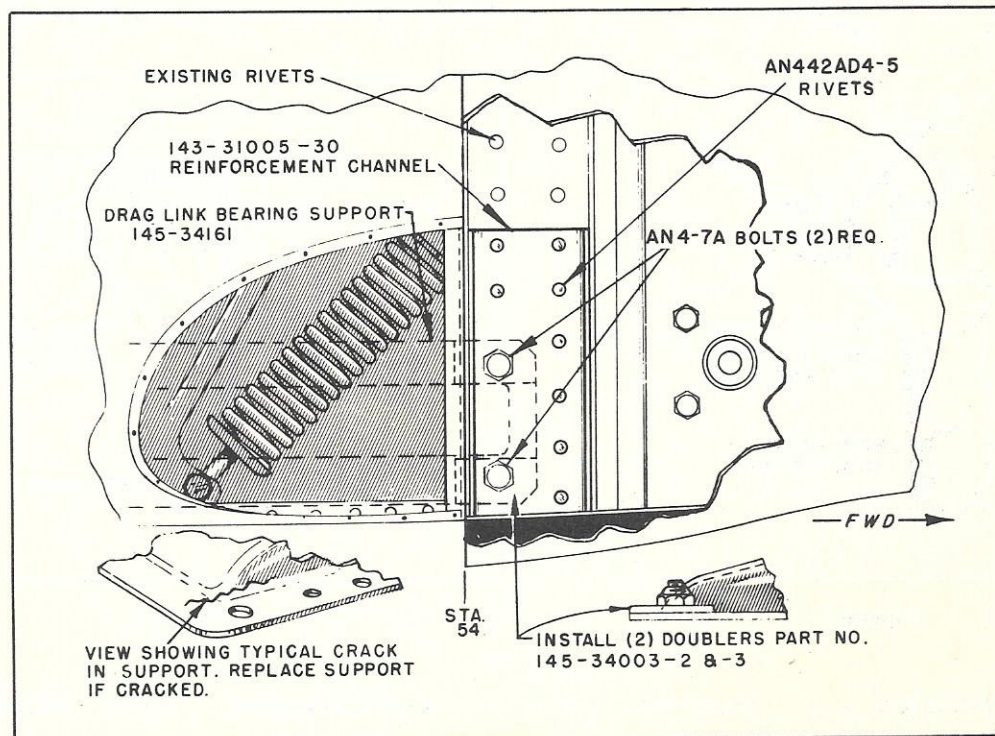

Figure 1
(1) Remove weight of aircraft from nose gear.
(2) Remove right-hand engine cooling gill cover.
(3) Through the gill opening, inspect forward end of support channel-nose gear drag brace bearing support, part No. 145-34161, for cracks in the radius of the flange where two bolts, part No. AN4-6A, attach part to firewall channel located on the opposite side. (See figure 1.)
(4) Replace if cracked. Use caution in removing rivets so as not to elongate holes.
(5) Remove bolts and rivets from lower end of the right-hand side of channel (firewall to nose gear torque box), part No. 143-31005-6, in area that would be covered by reinforcement channel, part No. 143-31005-30. (See figure 1.)
(6) Install reinforcement channel, part No. 143-31005-30, onto channel, part No. 143-31005-6, with eight rivets, part No. AN442AD4-5, using existing rivet holes.
(7) Replace bolts, part No. AN4-6A, with bolts, part No. AN4-7A. Under the nut of each bolt, install doubler, part Nos. 145-34003-2 and 145-34003-3, in lieu of AN washers. (See figure 1.)
(8) Reinstall gill opening cover.